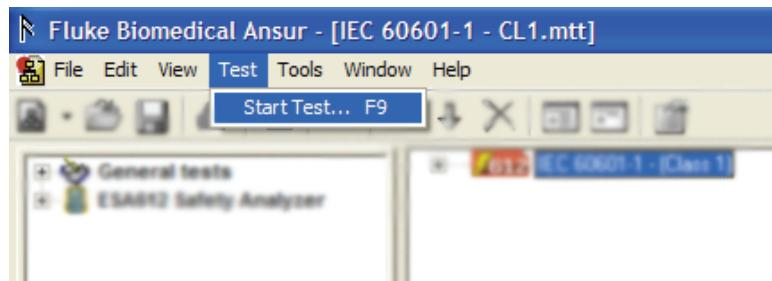

Figure 3-4. Starting a Test Template
1. Click **Test** → **Start Test** or click the Start Test toolbar button (▶➡) to display test initialization window as shown in Figure 3-4.